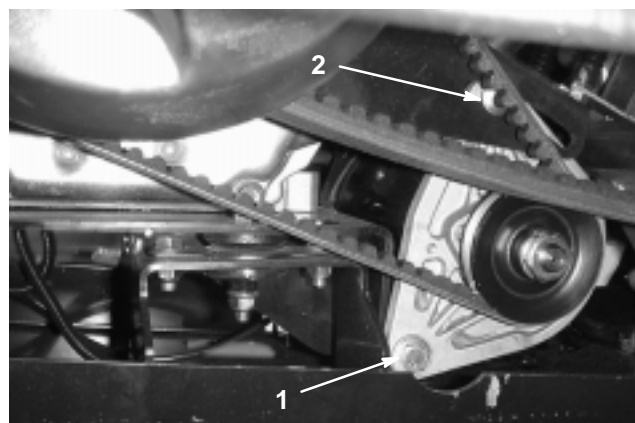

Figure 38
2. Loosen the starter generator pivot bolt (Fig. 38).
3. Wedge a pry bar between the engine mount and starter. Loosen the nut on the adjusting carriage bolt (Fig. 38).
5. Tighten the carriage bolt nut and remove the pry bar. Tighten the starter generator pivot bolt (Fig. 38).